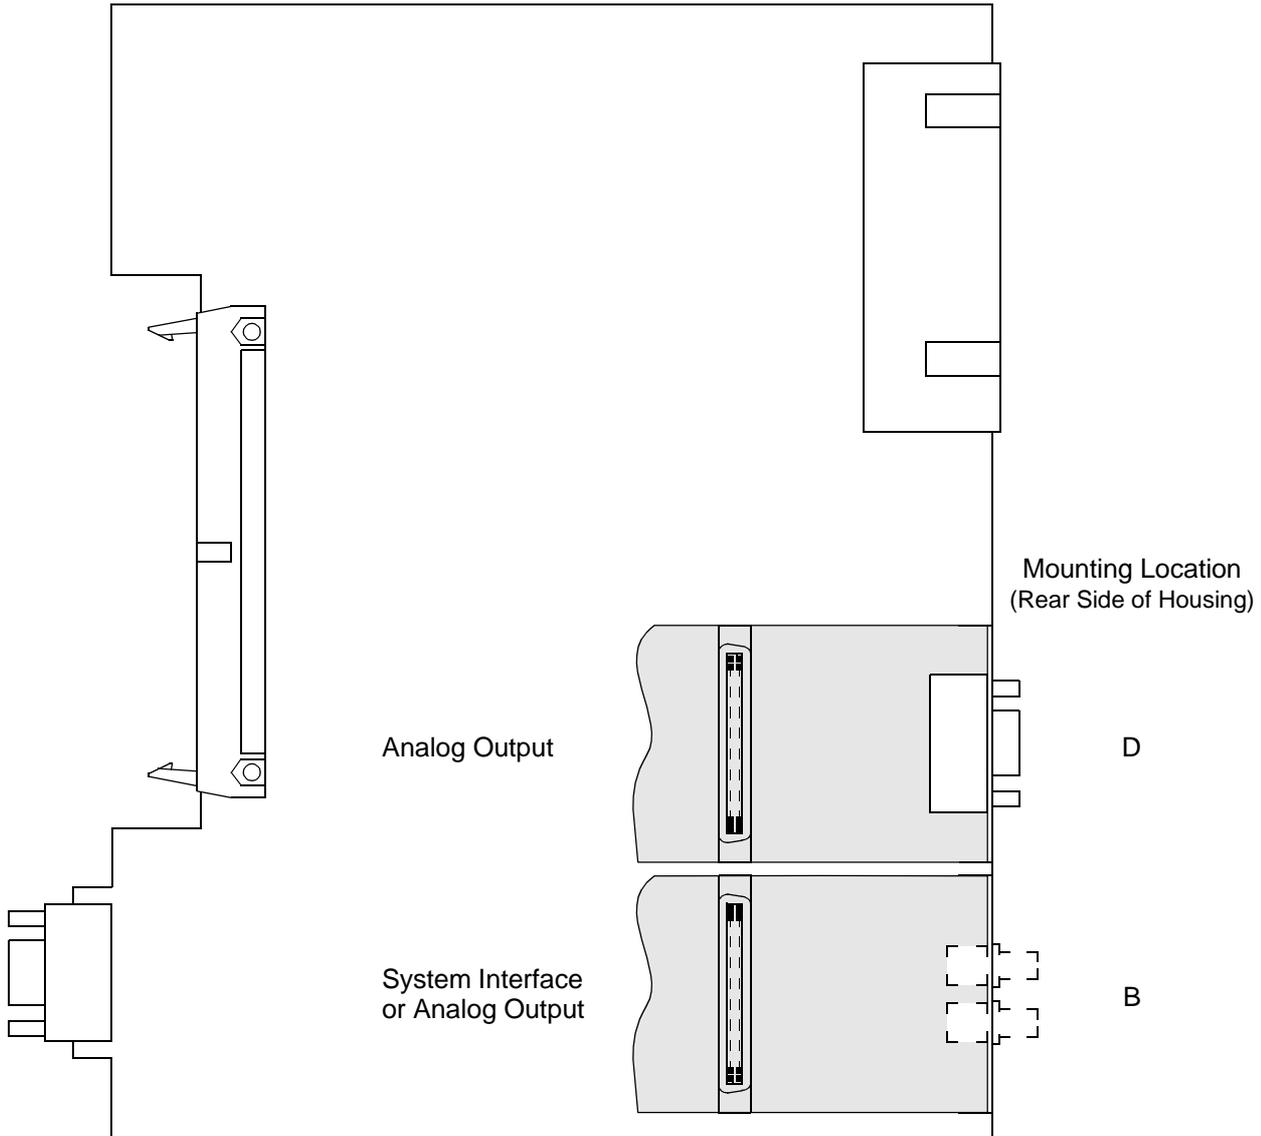
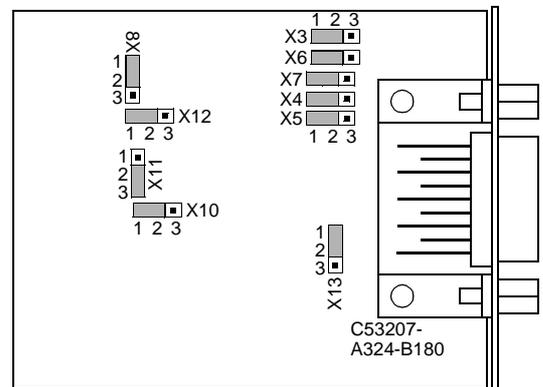
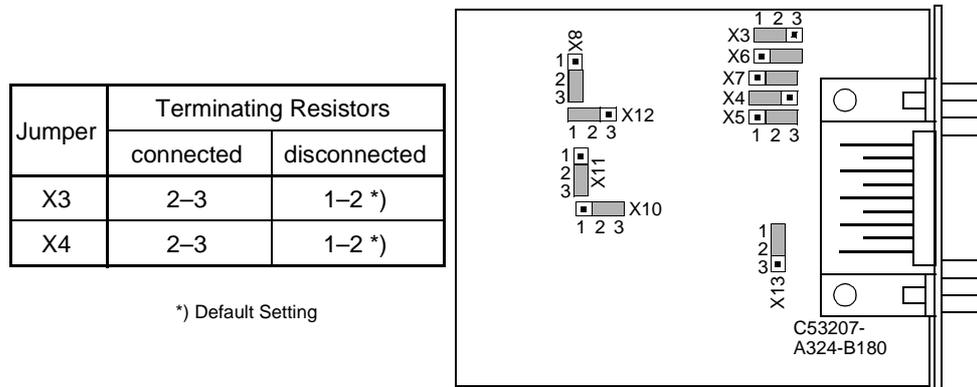
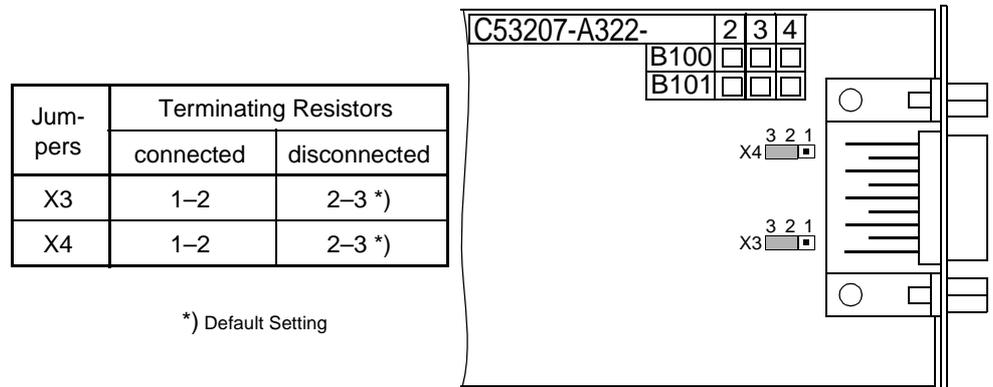

Figure 8-19 Processor printed circuit board C–CPU–2 with interface modules
Figure 8-20 Location of the jumpers for configuration of RS232
Figure 8-21 Location of jumpers for the configuration of terminating resistors of interface RS485
Figure 8-22 Location of jumpers for the configuration of terminating resistors at the interface Profibus
Replacing Interface Modules The interface modules are located on the processor printed circuit board C–CPU–2 (❶ in Figure 8-9 to 8-11). Figure 8-19 shows the printed circuit board and the modules.
The interface RS232 can be modified to interface RS485, according to Figure 8-21. Figure 8-19 shows the printed circuit board C-CPU-2 and the interface modules. Figure 8-20 shows the location of the jumpers of interface RS232 on the interface module.
Interface RS485 can be modified to interface RS232 according to Figure 8-20.
The terminating resistors are located on the corresponding interface module that is mounted to the processor input/output board C-CPU-2. Figure 8-19 shows the printed circuit board of the C-CPU-2 and the order the modules are mounted.
The module for interface RS485 is illustrated in Figure 8-21, the module for Profibus in Figure 8-22.
The mounting location on the processor circuit board C-CPU-2 is “B” and/or “D”, dependent on the version (see Figure 8-19).
The RS485 interface is capable of half-duplex service with the signals A/A' and B/B' with a common relative potential C/C' (DGND). Verify that only the last device on the bus has the terminating resistors connected, and that the other devices on the bus do not. The jumpers for the terminating resistors are on the interface module RS485 (Figure 8-21) or on the Profibus module (Figure 8-22).